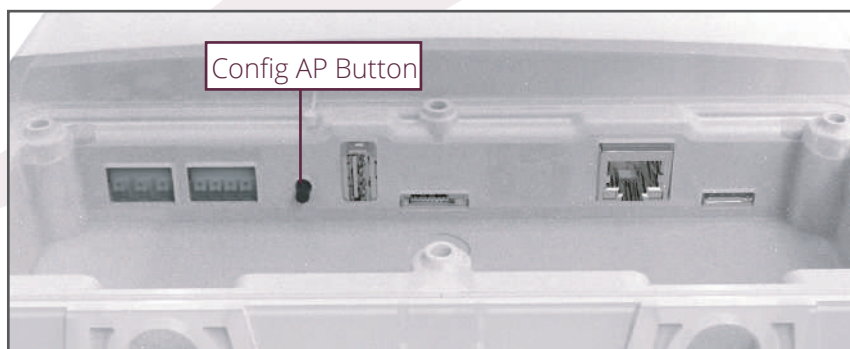

Figure 2 - Configuration button
1. Press and hold the "Config AP" button for 7 seconds (Figure 2). On release, the Network LED will turn yellow.